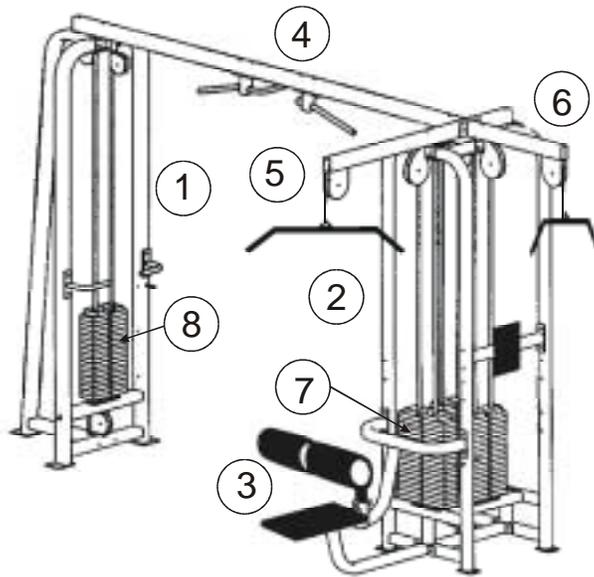
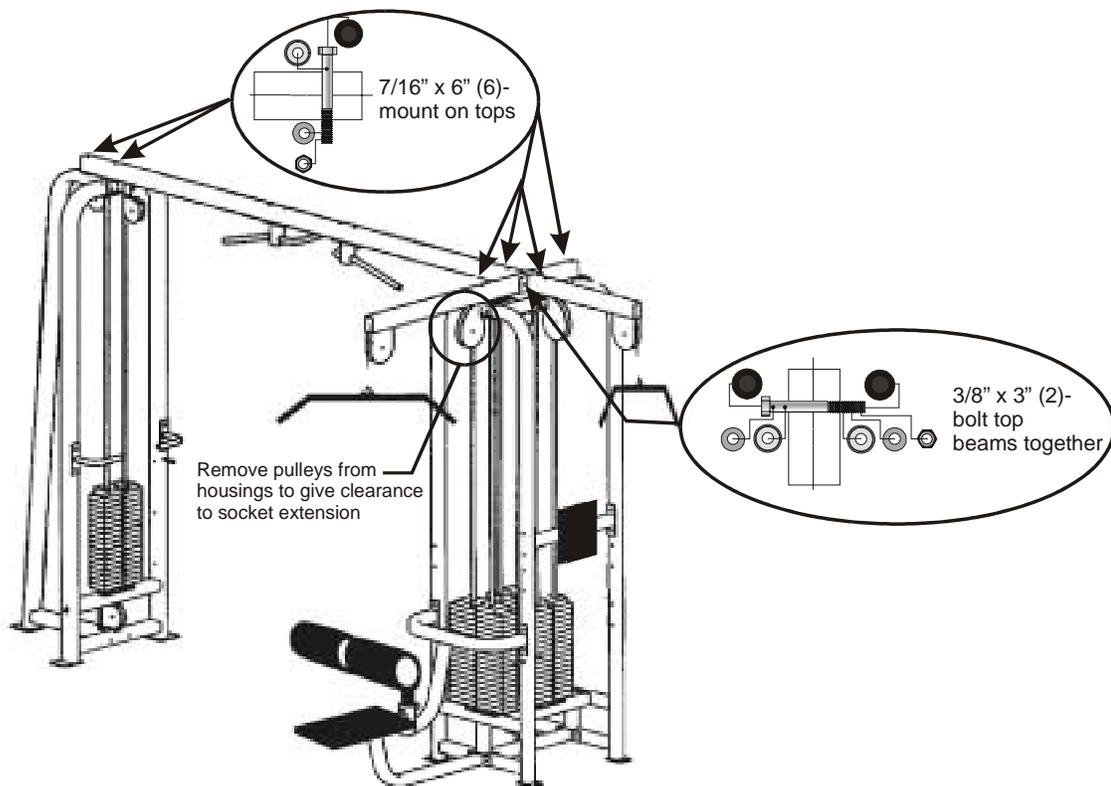

Figure 2. SM41 main components.
Figure 6. Bolt on the connecting beam, lat top, and tricep top.
Figure 2 shows an assembled SM41.
3. **Bolt on the connecting beam** (part 4 from Figure 2) using a 5/8" socket with extension and combination wrench, to the cells using two of the large 7/16" x 6" bolts, 7/16" washers, and 7/16" nuts, end cap washers and end caps. Figure 6 shows the connected cells.
The part shown in Hardware Figure 2 is the 9/16" cable jam nut that's used to secure the cables to the weight stacks.
Hardware Figure 2. Cable jam nut.
Hardware Figure 6. Weight stack rubber bumpers.